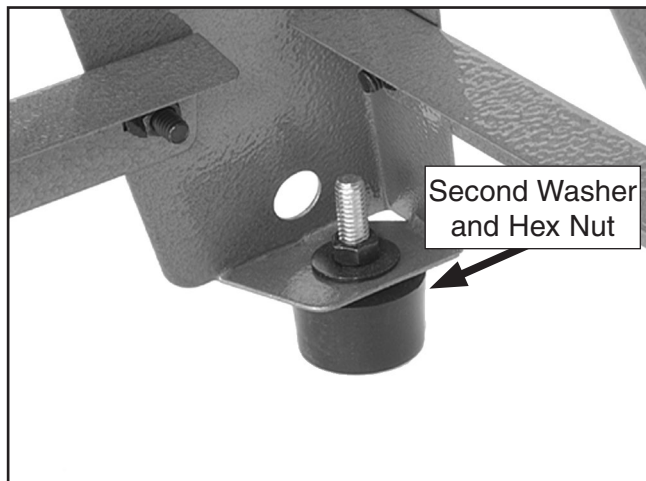

Figure 8. Rubber feet.
8. Install each of the rubber feet on the legs with two $\frac{3}{8}$ "-16 hex nuts and two $\frac{3}{8}$ " flat washers (see **Figure 8**).